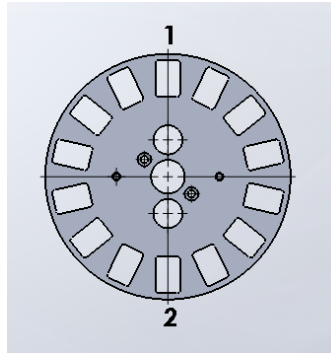

FIG. 31 – FIN INSTALLATION
13. Repeat step 12 for remaining fins, making sure to install fins in an opposite pattern in order to keep the fixture balanced as shown below in FIG. 31.